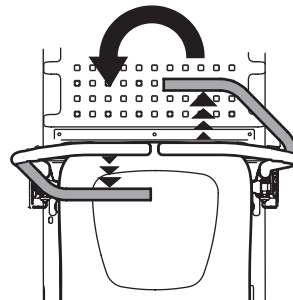

Figure 29
3. To turn counterclockwise, move the lapbar right drive control lever forward while simultaneously moving the left lapbar drive control lever rearward (Figure 29).